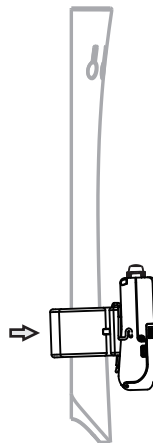

Fig. 38-3
(B) Install the transmitter set on the tailpiece of cello / double bass, Fig 38-3.